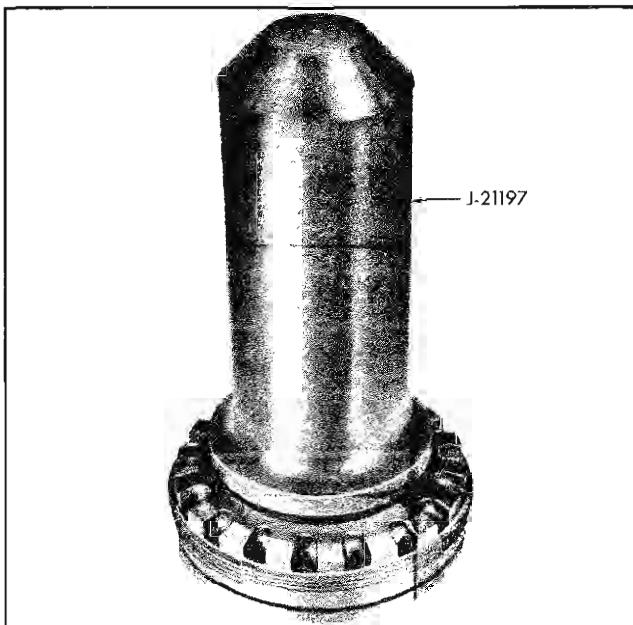

Fig. 4-57 Tool Positioned to Install Front Oil Seal
2. Apply uniform bead of sealer and replace front oil seal (automatic transmission only) using tool J-21197 (Fig. 4-57).